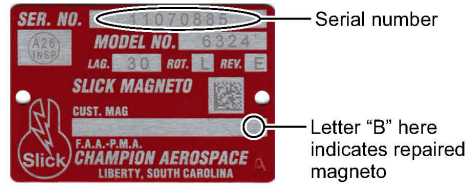

Figure 1 Magneto nameplate
1. Locate the serial number on the magneto dataplate (Fig. 1). If the serial number is determined to be within the range specified in this bulletin and the dataplate is not stamped with the letter "B", remove the magneto from the engine in accordance with the latest revision of the engine manufacturer's manual(s).